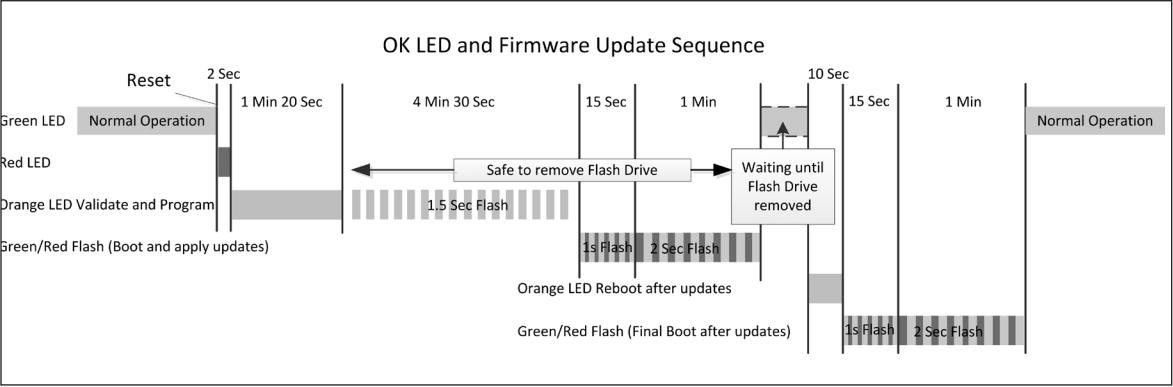

Figure 61. Firmware upgrade OK LED indication
5. The PWR LED will flash, as indicated in [figure 61 below].